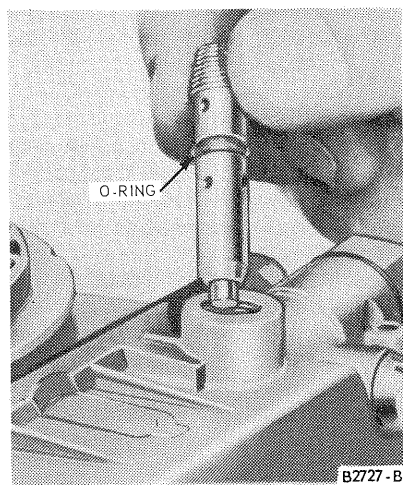

FIG. 54 Removing Fuel Inlet Seat and Needle
2. Remove the fuel level adjustment lock screw and gasket. Turn the adjusting nut out and remove the adjusting nut and gasket. Remove the fuel inlet needle and seal assembly (Figure 54). **Do not disassemble the fuel inlet needle and seat assembly. They are matched parts and are serviced as an assembly.**